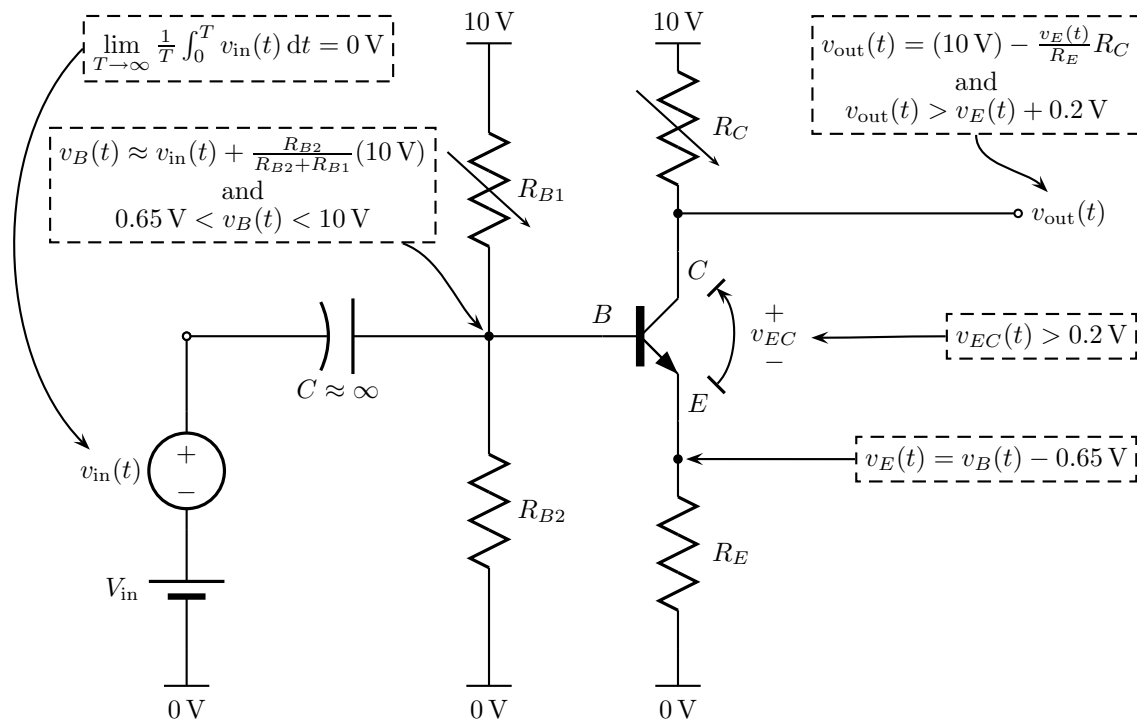
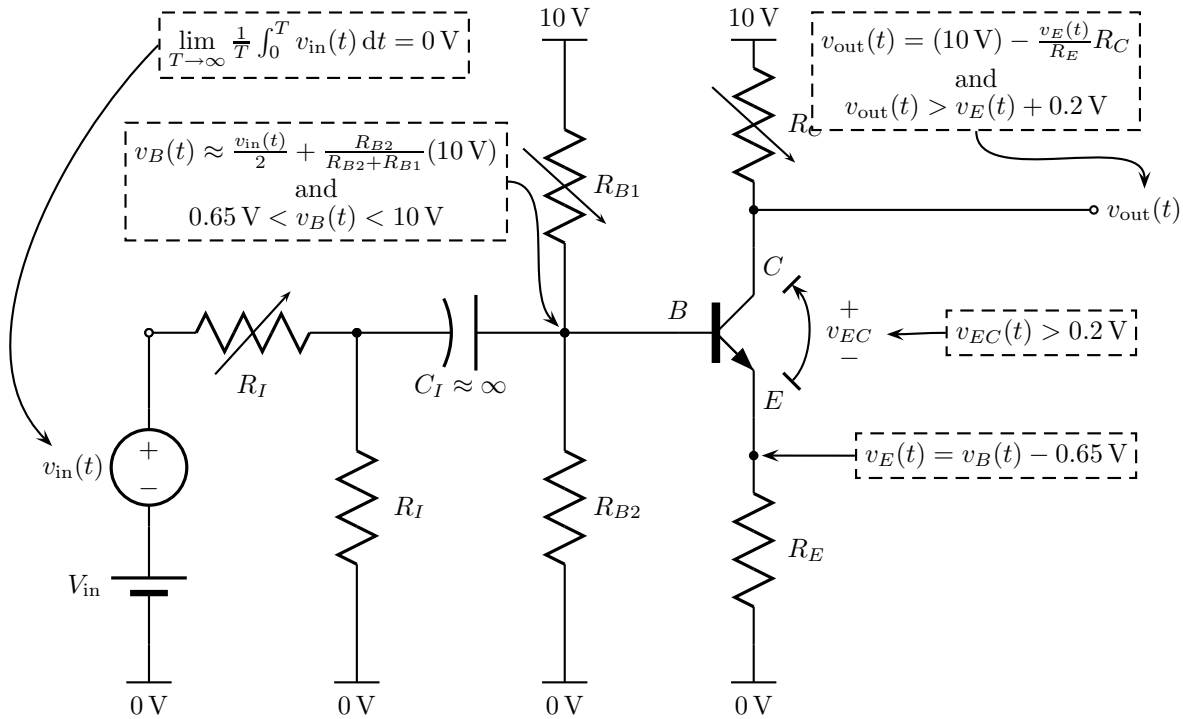

Figure 3.1: Level-shifter amplifier implemented with single-ended common-emitter NPN configuration.
Figure 3.2: Level-shifter amplifier implemented with attenuated-input common-emitter NPN configuration.
Consider Figure 3.1 for some  $t \geq 0$ .
Consider Figure 3.2, which is identical to Figure 3.1 except that the input signal is attenuated before being coupled to the transistor base6. The circuit is easy to analyze provided that  $C_I \approx \infty$  (i.e., a short-circuit for signals of interest) and
**Polarized capacitors:** In our lab, large capacitors are only available as polarized electrolytic capacitors. If possible, keep  $C_I$  small so that you do not need a polarized capacitor. **Remember that large capacitors can be built with small capacitors wired in parallel.** If you absolutely *need* an electrolytic capacitor, **make sure you wire it correctly.** The capacitor must be wired so that its cathode (i.e., the “negative” end of the capacitor, shown in Figure 3.2 as a *curved* capacitor line) sees a lower DC potential than its anode8 (the “positive” straight line). Because our input has negligible DC component and our base output has a  $\sim 1.483 \text{ V}$  DC component, our input coupling capacitor should be wired with its cathode (i.e., “negative” end) toward the input.